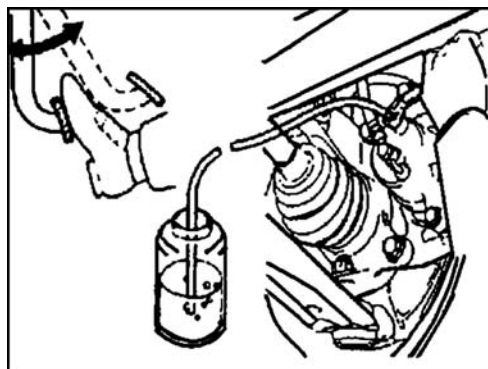

Fig. 2-42
3. Air discharging of brake oil pipe (Fig. 2-42)